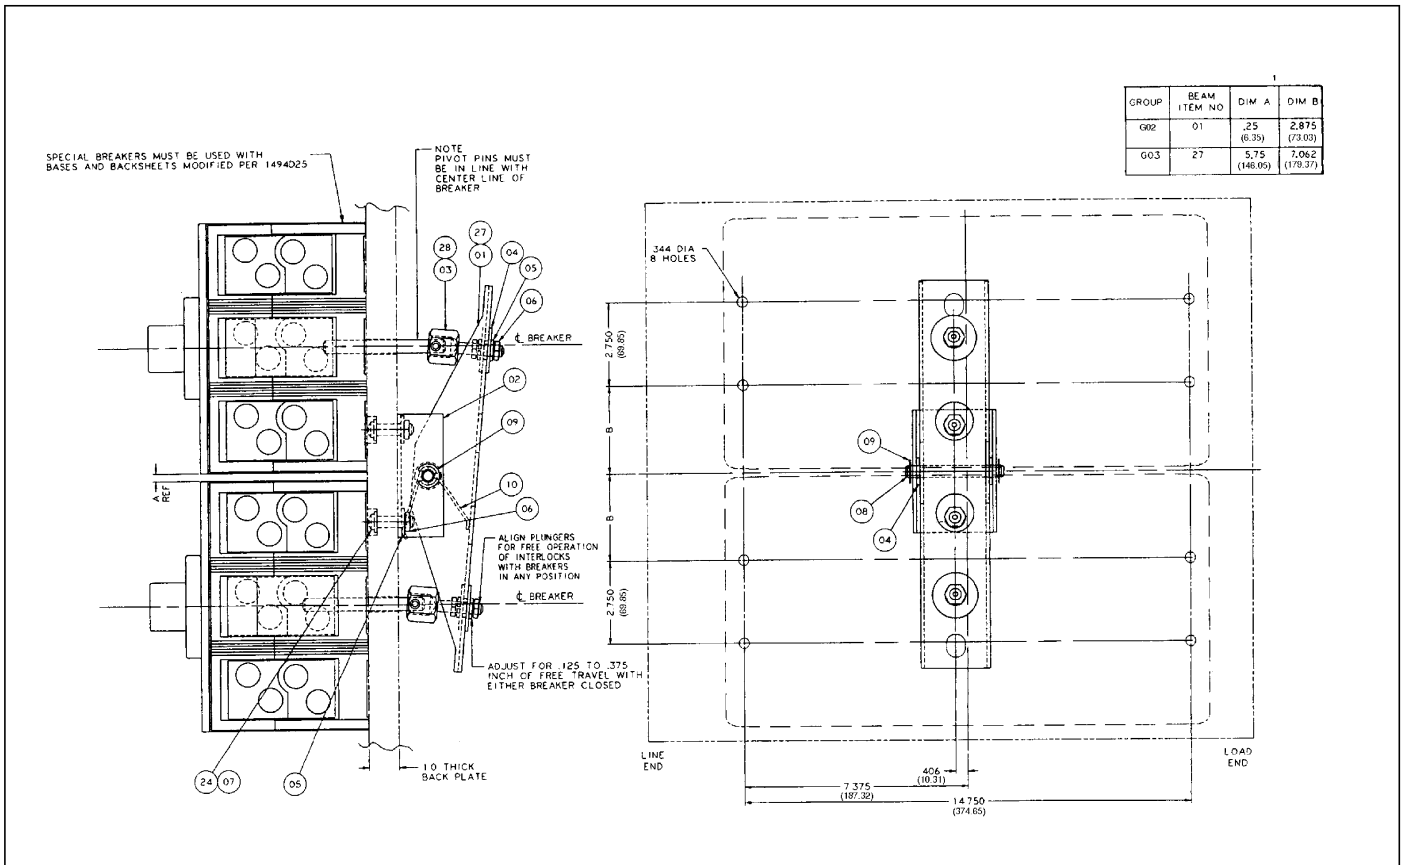

Fig. 2-4 Walking Beam Plunger Adjustment on 3-pole N-Frame Circuit Breaker
- 2-2. Assemble plunger and socket assemblies to the walking beam with 3/8-16 locknuts, lockwashers, and large washers provided. Make sure that the plunger pivot pins must be in line with center line of breaker as shown in Fig. 2-4.
The walking beam interlock must be adjusted before the circuit breakers are connected to an electrical system. All adjustments should be made at the installation as shown in Fig. 2-4. Carry out adjustment procedure as follows:
- 3-2. Adjust the 3/8-16 locknuts that hold plungers to beam to give 1/8-3/8 (3.2-9.5) of free travel, making sure that the plunger pivot pins are correctly aligned with the breaker's centerline (Fig. 2-4).